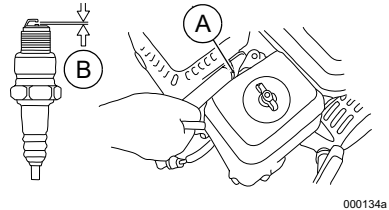

Figure 4-2. Service Spark Plug
- See Figure 4-2. Clean area around spark plug (A).